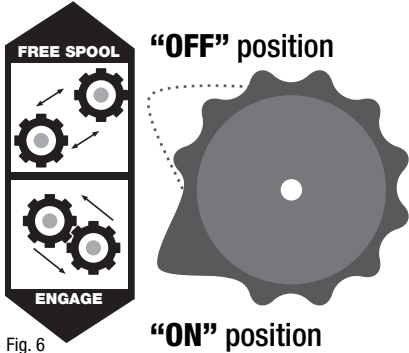

Fig. 6
- Use the hook strap to pull out the wire cable by moving the Clutch Control Knob to the **"OFF"** (Free Spool) position as shown in see figure 6.